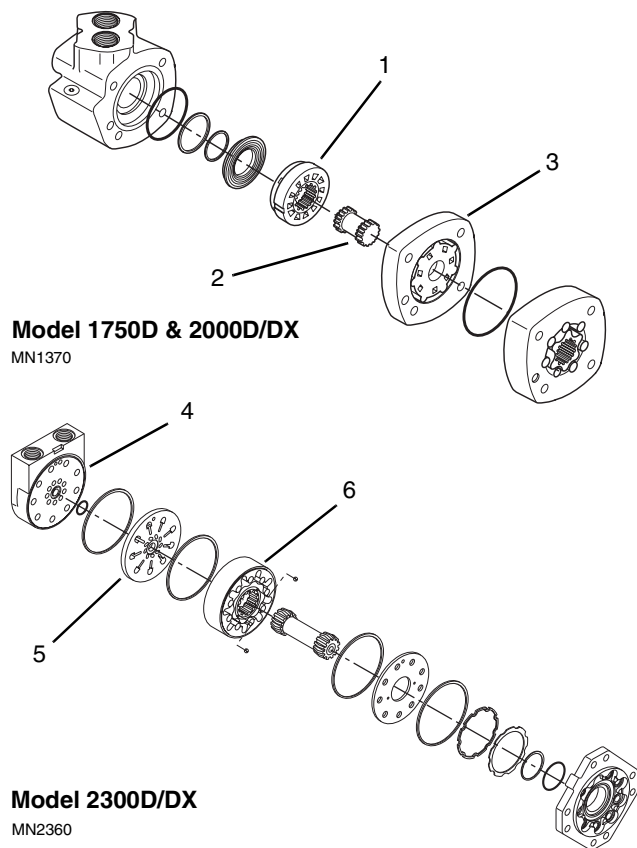

Figure 5-48 Disc Valve Arrangement
For smooth and continuous motor output rotation, the torque motor utilizes a disc valve which operates in synchronization with the geroler star. The model 1750D and 2000D/DX disc valve arrangement consists of a rotating disc valve (Fig. 5-48, 1), valve drive (2), and a stationary valve plate (3). The model 2300D/DX disc valve arrangement consists of an end cap assembly (4), plate valve (5), and geroler assembly (6).
The disc and plate valves (Fig. 5-48, 1 & 5) contain an inlet fluid passage port for each star valley area and a return fluid passage port.
The model 1750D and 2000D/DX motors use a separate crowned drive shaft (Fig. 5-48, 2) to synchronize the disc valve and geroler star so that they turn as one. To accept fluid from the disc valve, the valve plate (3) also contains internal porting passages to each outer ring pocket area.